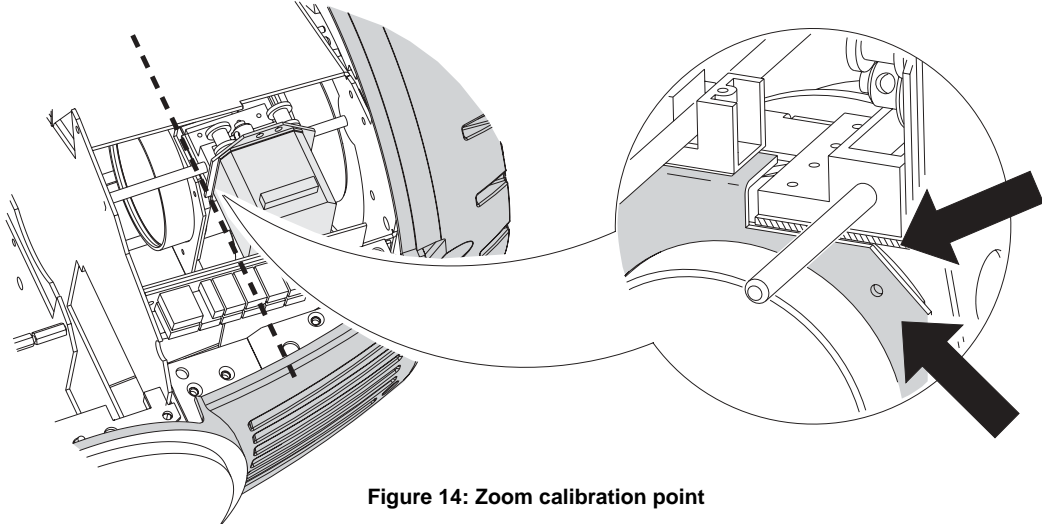

Figure 14: Zoom calibration point
- 2 To calibrate zoom, first remove the bottom head cover. Select `UTIL / CAL / ZOO F` and press [Enter]. Adjust the offset until the face of the zoom lens plate is flush with the back edge of the focus plate (Figure 14). Press [Enter] to save the setting. Replace the bottom head cover.